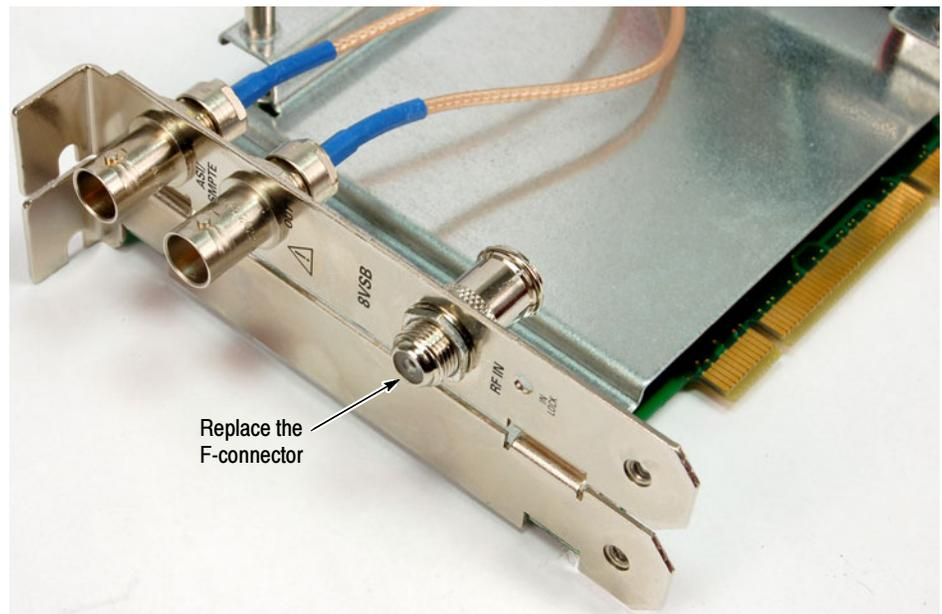

Figure 18: Replacing the F-connector
13. Use a 7/16 inch wrench to remove the retaining nut from the F-connector (see Figure 18), and then remove the F-connector from the rear panel.